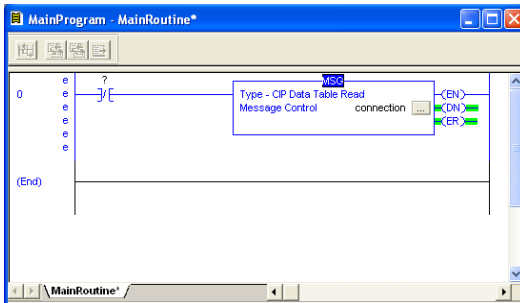

Figure 56: MainRoutine
- e) Click “OK” to close the MSG Configuration dialog. At this stage, MainRoutine should look like Figure 56.